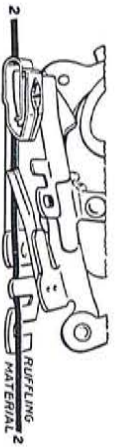

Fig. 72. Correct Position for Material
2. Insert the material to be pleated between the two blue blades and under the separator guide (Line 2, Fig. 72).